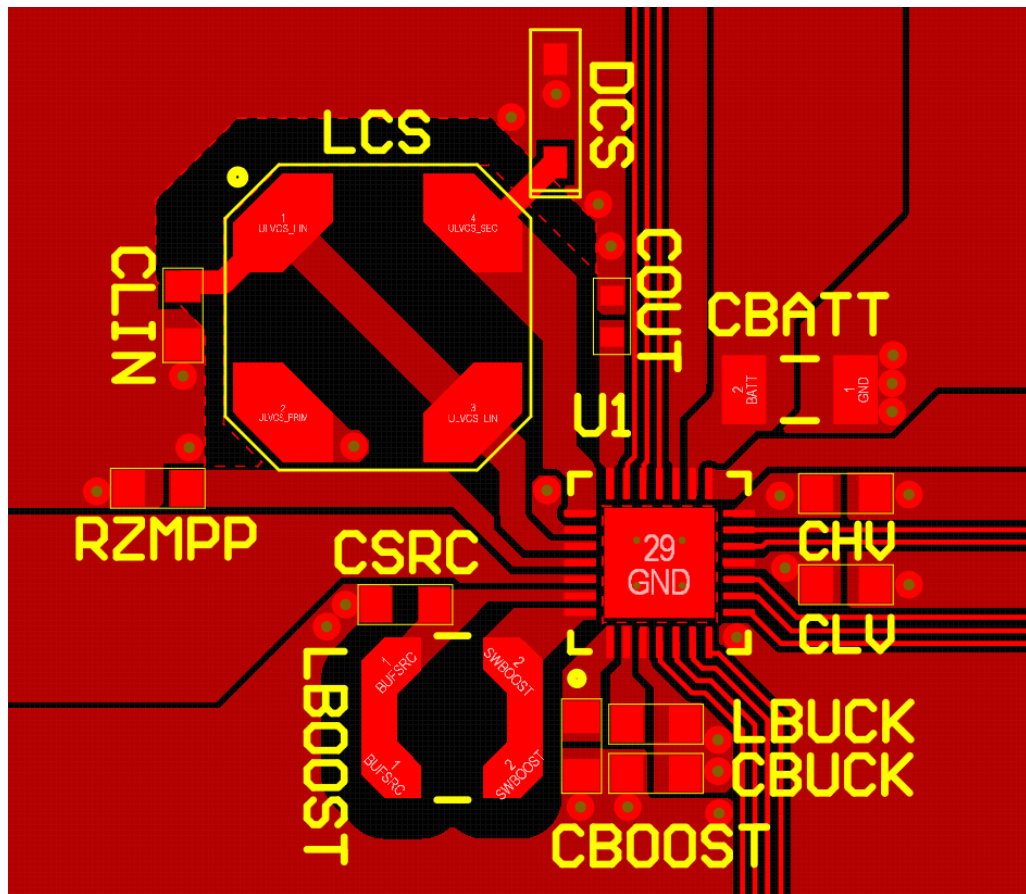

Figure 24: Layout example for the AEM20941 and its passive components
- The switching nodes (**SWBOOST** and **SWBUCK**), **ULVCS_LIN**, **ULVCS_OUT**, **ULVCS_PRIM**, and **ULVCS_SEC** nodes must be kept as short as possible, with minimal track resistance and minimal track capacitance. Low resistance is obtained by keeping track length as short as possible and track width as large as possible between these switching nodes and the AEM20941 pins. Minimal capacitance is obtained by maintaining a large distance between the switching nodes and other signals. We recommend removing the ground plane, the power plane and the bottom layer ground pour under **L_{BOOST}** and **L_{BUCK}** footprints, as well as adding distance between **BUFSRC/SWBOOST** and the top ground pour, as shown in Figure 24.
- The **GND** return path between the decoupling capacitors and the AEM20941 thermal pad, which is the AEM20941 main **GND** connection, must be as direct and short as possible. This is preferably done on the top layer when possible, otherwise by internal/bottom plane, using low resistance vias to decrease layer-to-layer connection resistance. In Figure 24, this **GND** return path is done on an internal plane.